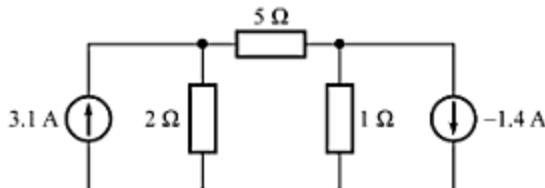

Fig. A-63
- A-20. Find the voltages across the various components in the circuit of Fig. A-63. [Ans. 5 V, 2 V, 3 V]